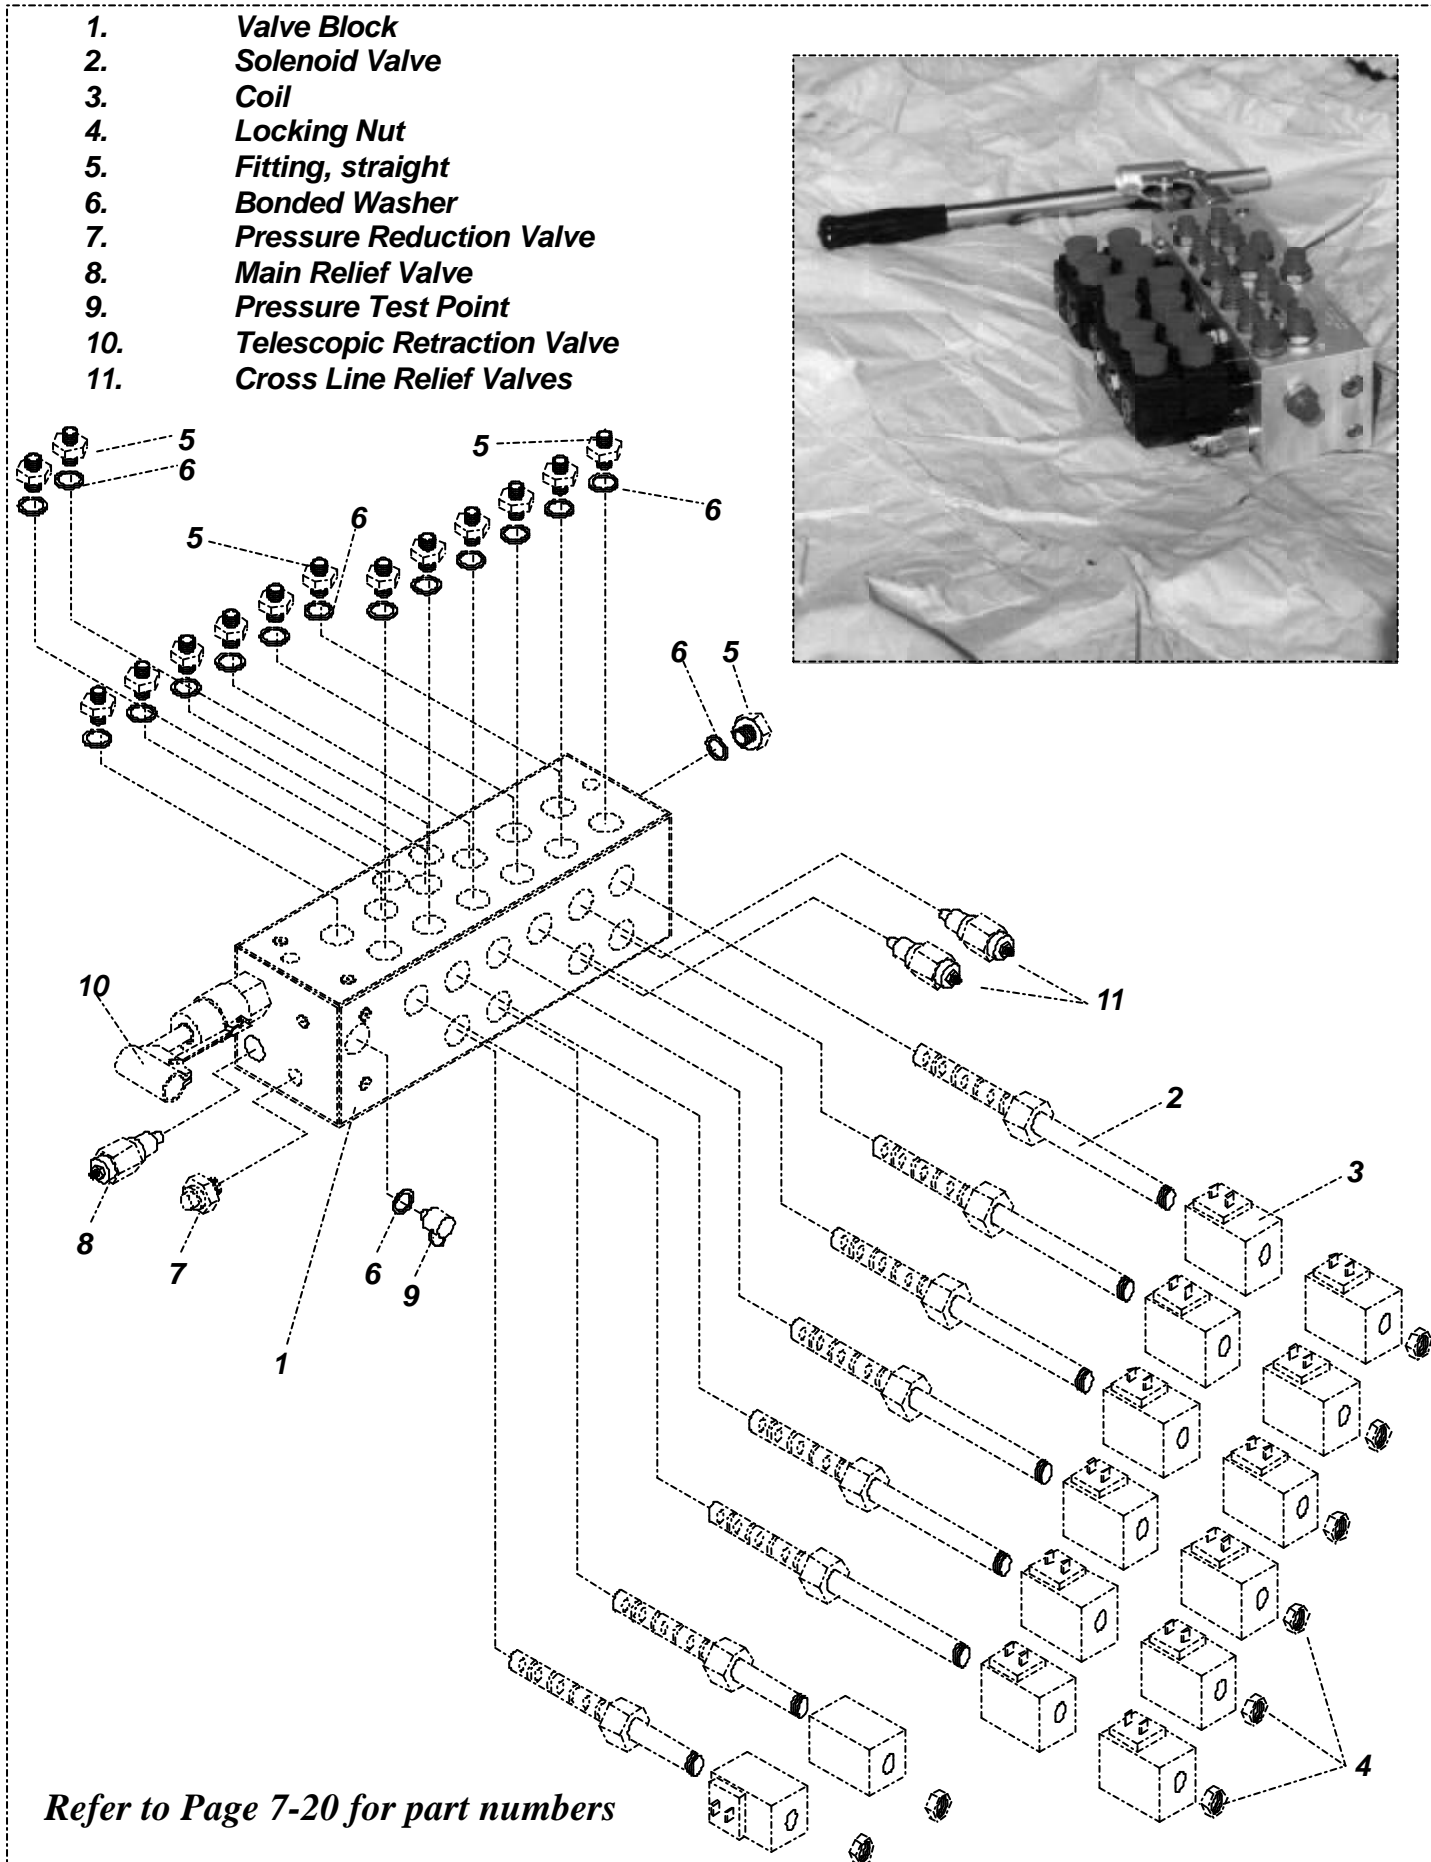

Figure 4-9: Manifold Block Components
4.8 Hydraulic Manifold (Figure 4-9)
NOTE: Mark all components as they are removed so as not to confuse their location during assembly. Refer to Figure 4-9 often to aid in disassembly and assembly.